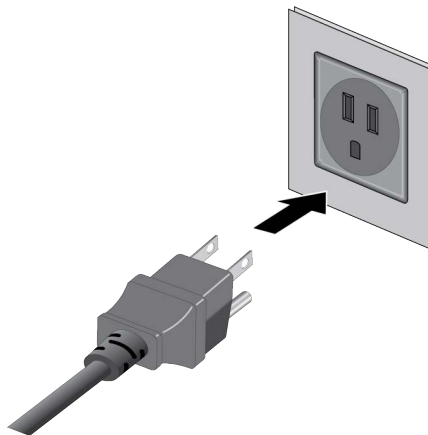

Figure 57. Connecting the Power Cord to an AC Power Source
4. Connect the other end of the power cord to an appropriate AC power source. Refer to Figure 57 on page 82.